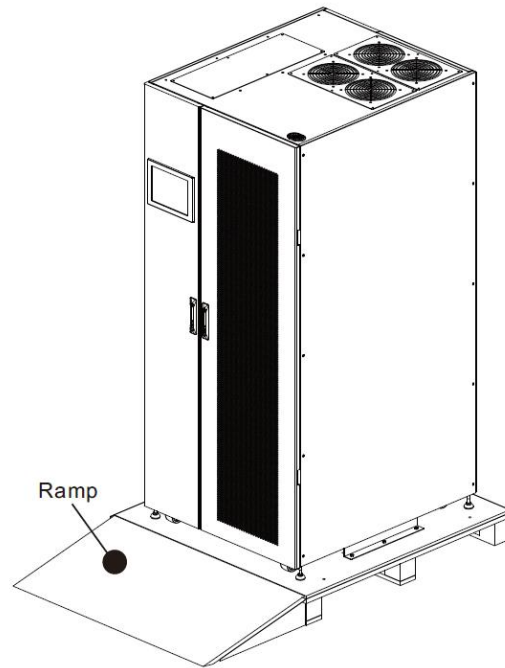

Figure 2-3
3. Put a ramp in the front of the cabinet. Refer to Figure 2-3.